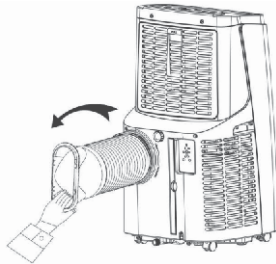

Figure 1
Install the heat pipe assembly (as shown in Fig.1)
1. take out the outer connector assembly and the exhaust pipe assembly, and remove the plastic bags; insert the heat pipe assembly (the end of the exhaust joint) into the back-panel vent slot (push to the left) and complete the assembly (as shown in figure 1).